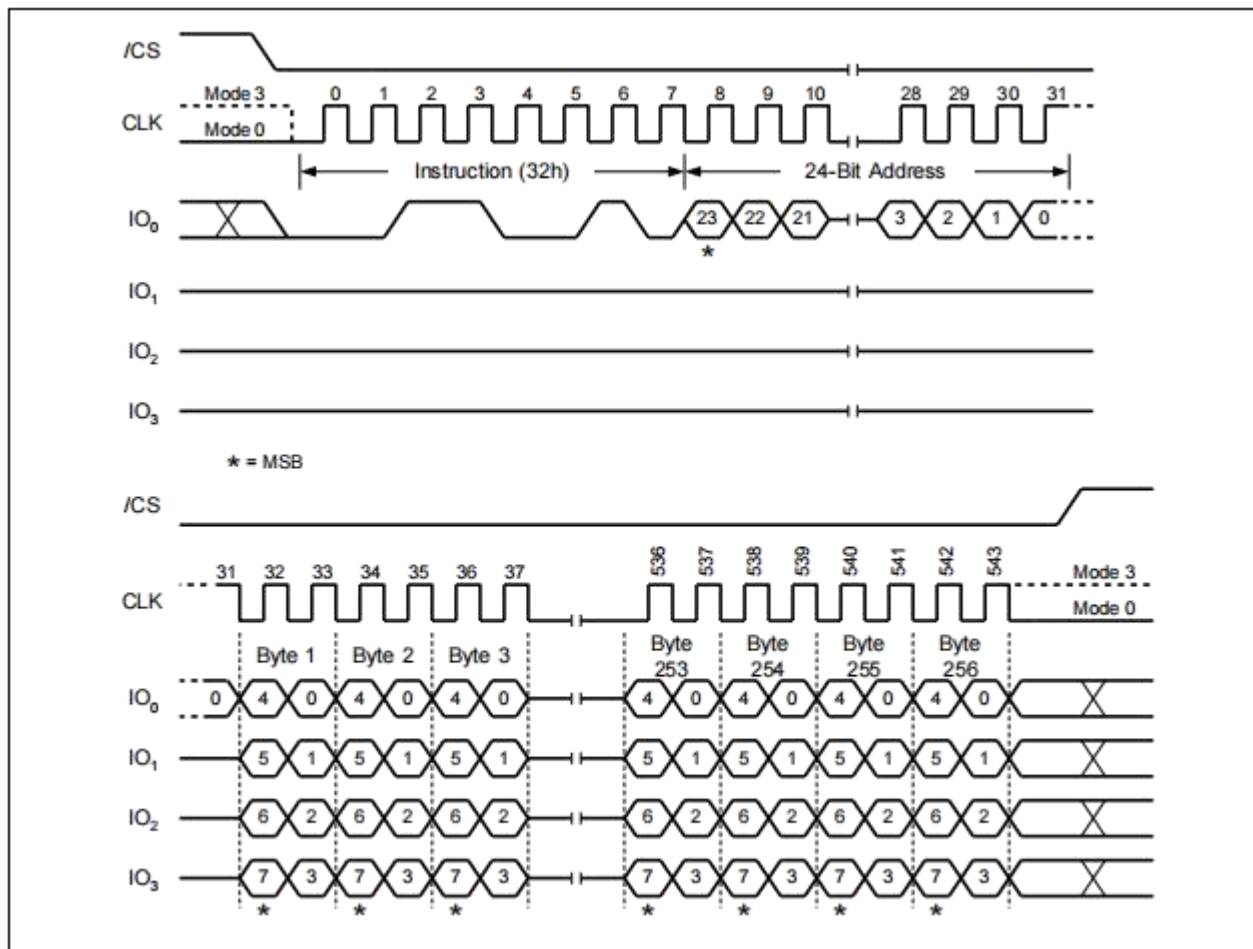

Figure 18. Quad Input Page Program Instruction
To use Quad Page Program the Quad Enable (QE) bit in Status Register-2 must be set to 1. A Write Enable instruction must be executed before the device will accept the Quad Page Program instruction (Status Register-1, WEL=1). The instruction is initiated by driving the /CS pin low then shifting the instruction code "32h" followed by a 24-bit address (A23-A0) and at least one data byte, into the IO pins. The /CS pin must be held low for the entire length of the instruction while data is being sent to the device. All other functions of Quad Page Program are identical to standard Page Program. The Quad Page Program instruction sequence is shown in Figure 18.